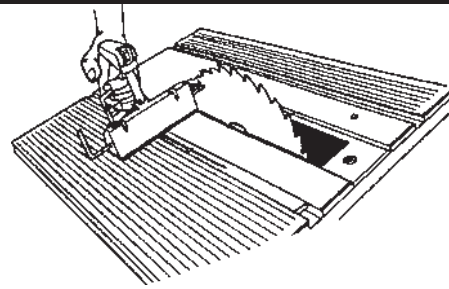

Figure B-75
- 44. Move the miter gauge from front to back along the saw blade, as shown in Figs. B-75 and B-76. If it hangs up on the blade or a gap develops, the miter gauge slots need to be aligned. Make sure the Allen wrench does not contact a saw blade tooth, because the tooth "set" will cause misalignment.